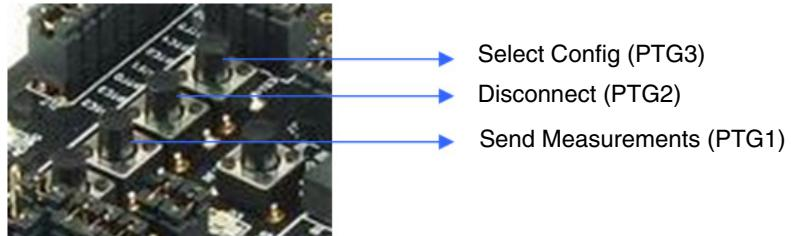

Figure C-8. DemoJM push button panel
- After the host device is in operating state, Push Buttons on the device can be used to send weight measurements to the host. Figure C-8 shows the function of these buttons.